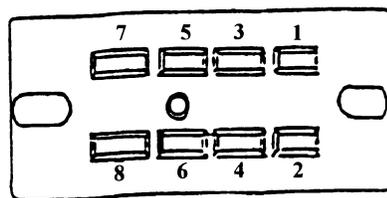

Figure 3
2. Remove the terminal from location 3 of the changer socket (See figure 3 above) using the removal instructions on page 3.
4. Remove the terminal from location 7 of the changer socket (See figure 3 above) using the removal instructions on page 3.
7. Insert wire #3 of conversion harness in changer socket location 3. (See figure 3, page A1.)
8. Insert wire #4 of the conversion harness in changer socket location 4. (See figure 3, page A1.)
9. Insert wire #7 of the conversion harness in changer socket location 7. (See figure 3, page A1.)
10. Insert wire #8 of the conversion harness in changer socket location 8. (See figure 3, page A1.)